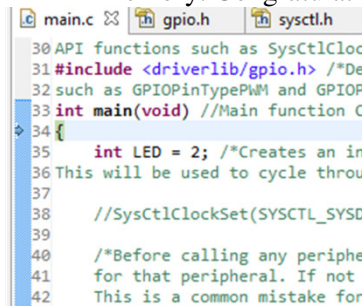

Fig. 1.18. CCS debug program counter arrow.
1. A small blue arrow left of the opening brace of main() in the middle window, see Fig. 1.18, points at the beginning of main(). This blue arrow indicates where the Program Counter (PC) is pointing to.
A breakpoint temporarily suspends the program execution until told to resume or step into the next line. Fig. 1.18 shows a blue bar running vertically starting at main and continues to the program's end. This blue bar shows where the PC arrow is positioned in the program and also sets breakpoints. Double click on the blue bar next to the line **SysCtlPeripheralEnable(SYSCTL\_PERIPH\_GPIOF);** and a blue ball with cross-hairs behind it will appear. In addition, the tab labeled "Breakpoints" appears in the upper right pane. Click on the tab and the newly created breakpoint is listed. The breakpoint may be disabled by unchecking the box next to under the "Breakpoints" tab. Multiple breakpoints may be used and disabled during debug.